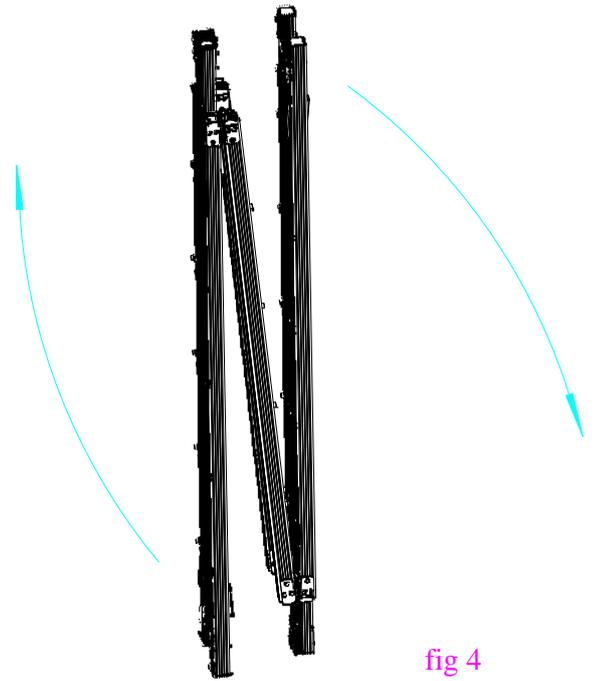

fig 4
1. Take the frame out of the case and remove its wrappings. Unfold the main joints making sure that both the end and middle spans are in perfect alignment as shown in (fig 4).